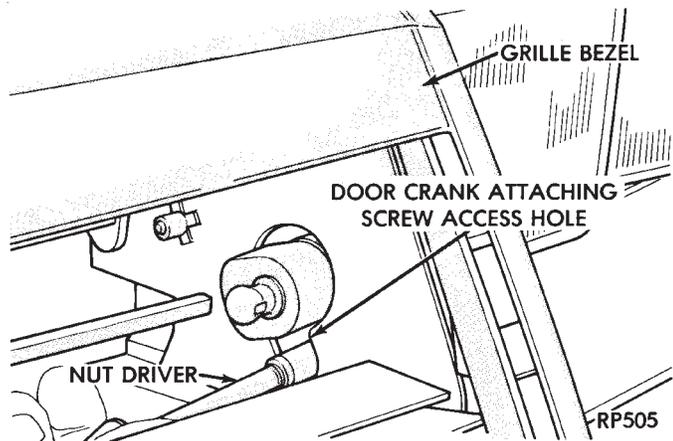

Fig. 5 Door Crank Screw
- (4) Remove the door crank attaching screw. Screw is located in the (keyhole shaped) access hole below the adjustment collar when the headlamp door is open (Fig. 5).